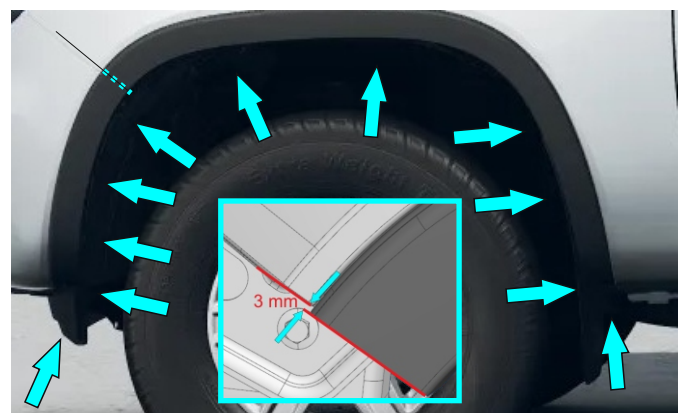

Fig.6
6. Mark a cutting line as shown in fig 6. Remove plastic clips and factory bolts to take off factory fenders.